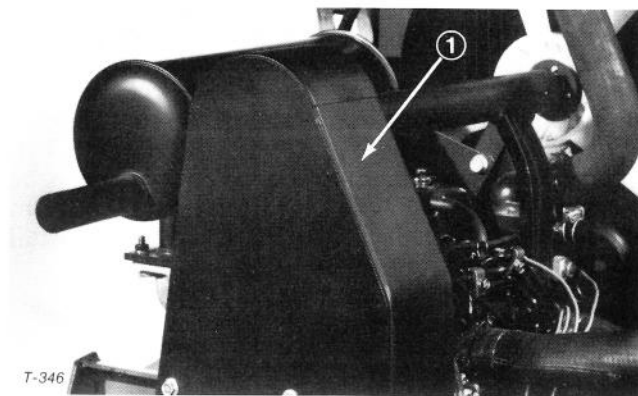

Figure 51
2. Remove capscrews (5) securing fan belt guard and remove guard (Fig. 51).
5. Install fan belt guard and secure with capscrews (Fig. 51). Close and latch hood.
4. Install fan belt guard and secure with capscrews (Fig. 51). Close and latch hood.